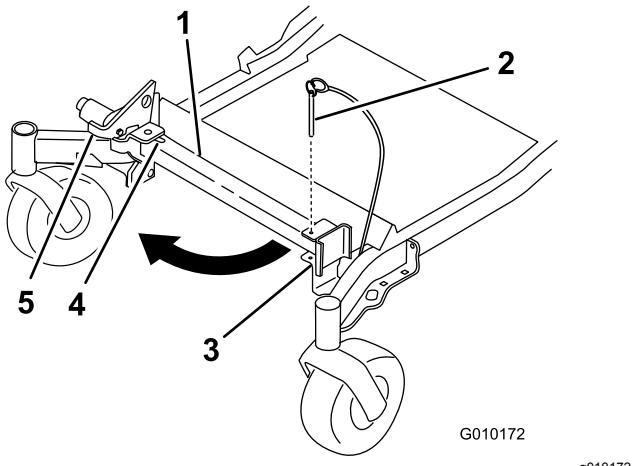
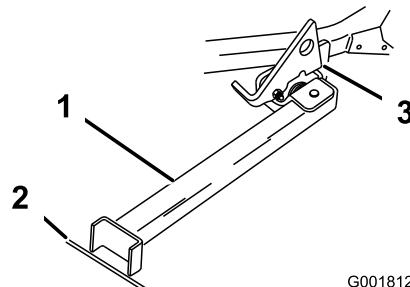

Figure 42
Figure 43
2. Remove the bracket pin (Figure 42).
4. Swing the stand foot out front and slide it toward machine, into the bottom of slot (Figure 42 and Figure 43).
5. Set the foot of the stand on the ground and rest the latch on the pivot tab (Figure 43).
Note: For best results, place the foot of the stand into the seams in sidewalks or into the turf (Figure 43).
7. Drive the machine onto the stand. Stop when the latch drops over the tab into the locked position (Figure 43).
5. Return the stand to its rest position (Figure 42).